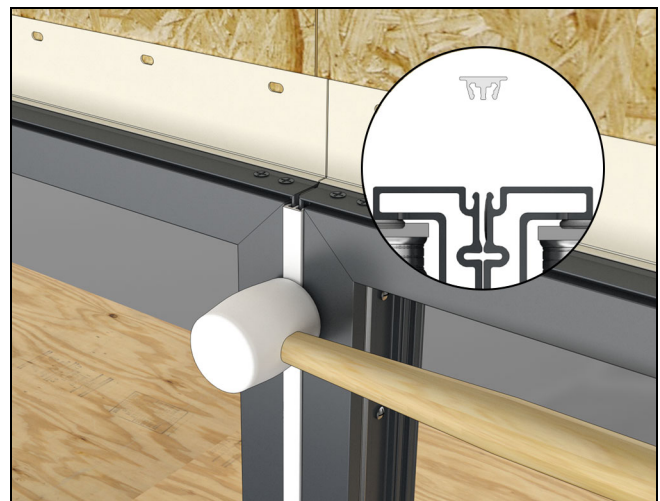

Figure 8
3. Apply the exterior covers. These can be seated with a rubber mallet. Make sure the covers are flush to the exterior accessory kerf. See Figure 8.